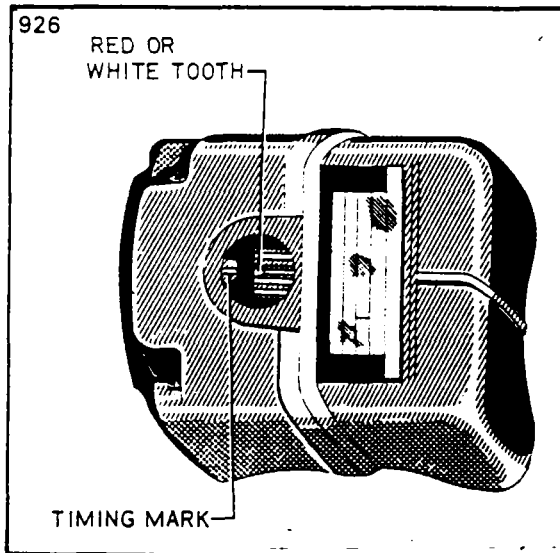
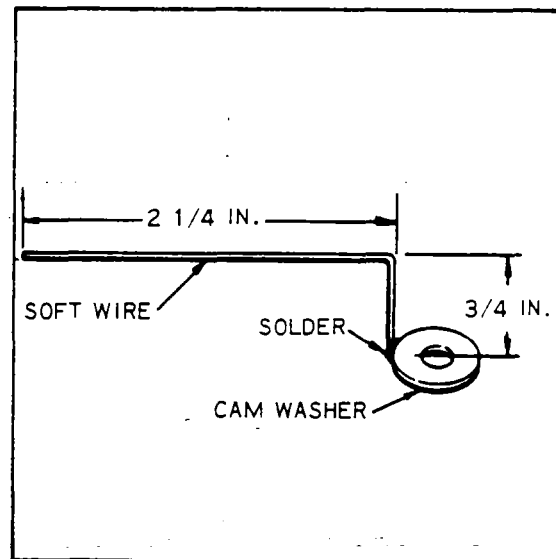

Figure 7-8. Magneto Timing Marks
Figure 7-9. Timing Pointer
c. With timing plate and pointer attached (Refer to Figure 7-9) and pointer set at zero, rotate coupling from neutral, in a left hand direction  $10^\circ$ . Appearing through timing hole, ascertain if the white or red tooth aligns with the white line of the distributor block. (Refer to Figure 7-8.) Alignment may not vary over  $\pm 4^\circ$ .
A timing kit, including timing plate, etc. may be purchased through the engine or magneto manufacturer. A pointer may be formed as shown in Figure 7-9.